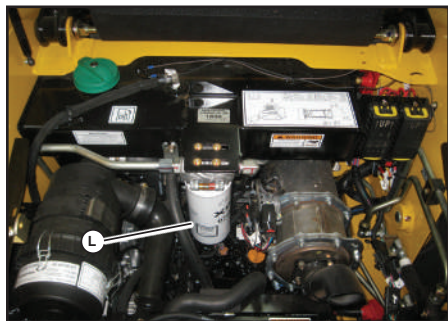

Fig. 72 - Hydraulic Oil Filter
6. Remove the hydraulic oil filter (L, Fig. 72), using a filter wrench if necessary. Carefully clean the filter head mounting surface with a clean cloth.